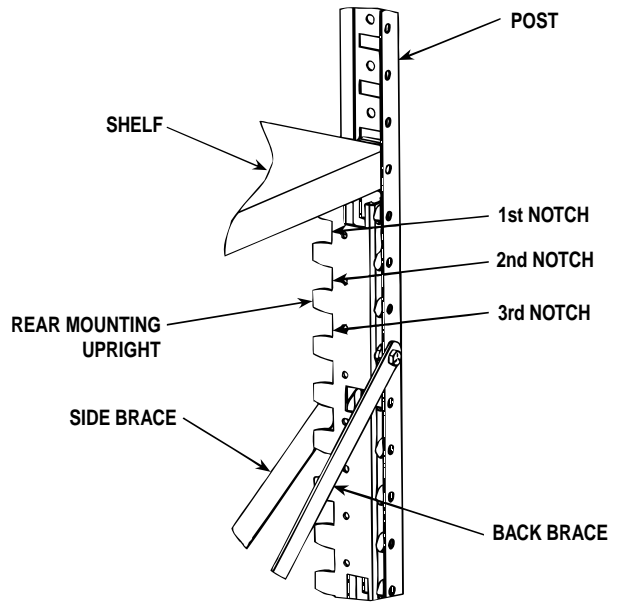

FIGURE 4
1. Mount the drawer slides for the top drawer first. Mount the drawer slides to the inside of the mounting uprights. Use the following table for location of top drawer. (See Figure 4)